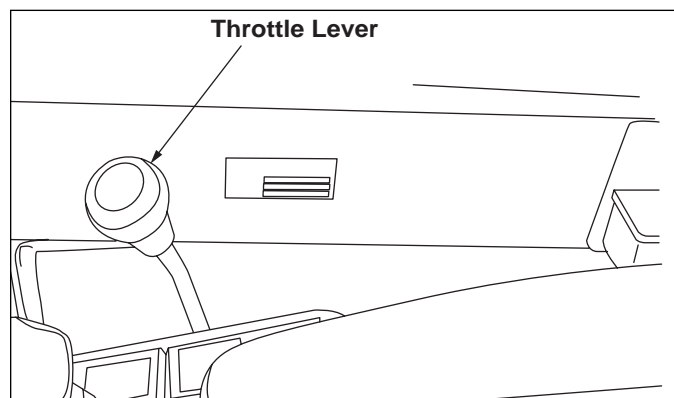

Figure 3-12. Throttle Lever
4. Push the throttle lever (Figure 3-12) fully forward.